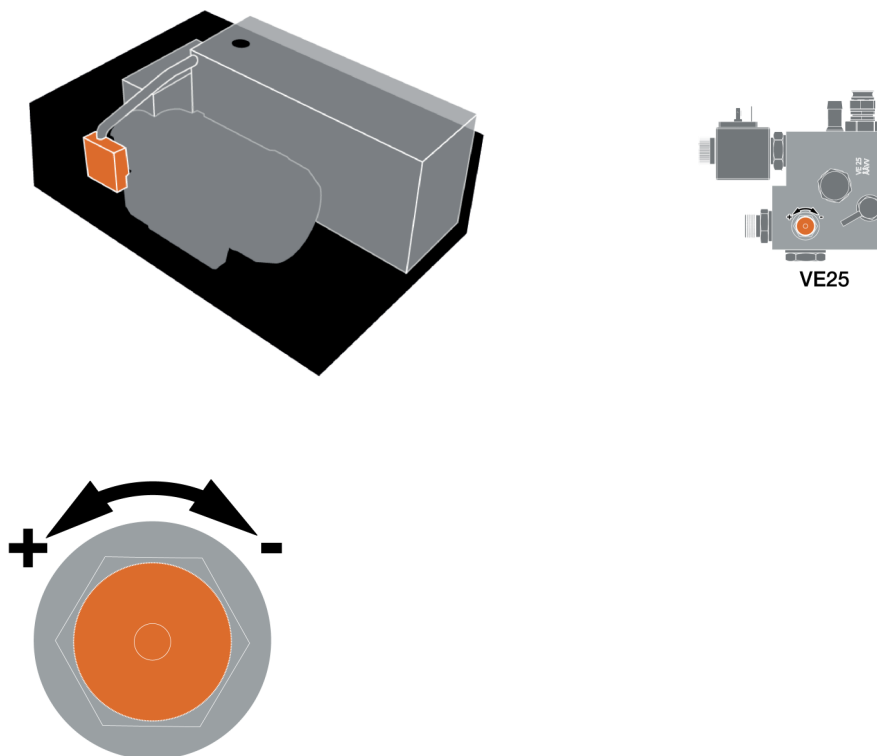

Figure 27. The valve package is mounted on the hydraulic unit. Adjust the lowering speed using the flow control valve knob.
1. The valve package is mounted on the hydraulic unit; see Figure 27 below.